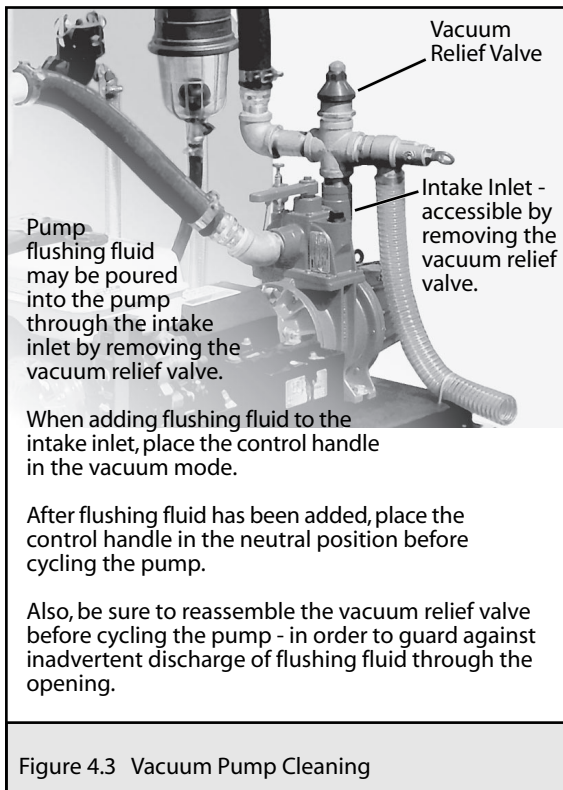

Figure 4.3 Vacuum Pump Cleaning
2. Remove the vacuum relief valve from the air line. (Figure 4.3).